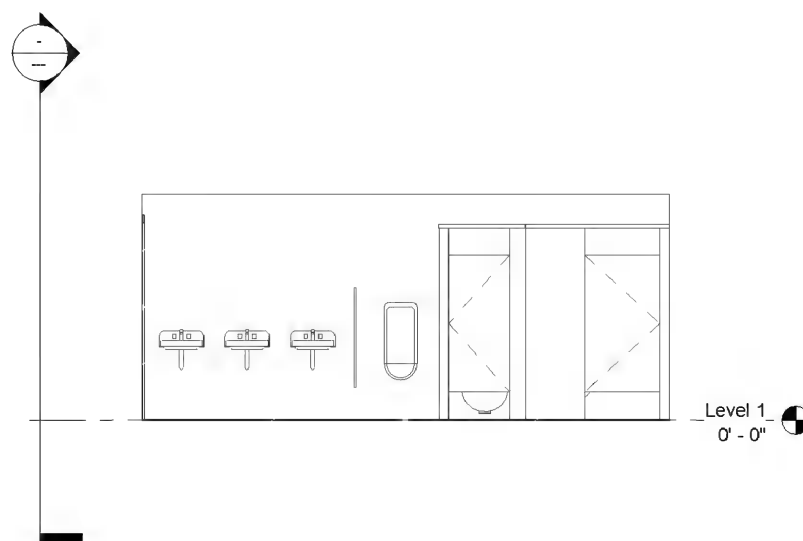

FIGURE 11-1.8 Men's Toilet – Typical view
17. Switch to the new view. Adjust the *Crop Region* so the concrete slab is not visible. Your view should look like Figure 11-1.8.
You may see the building section reference as shown in Figure 11-1.8. This would not typically be shown in an interior elevation view, especially because it does not intersect the elevation view. You will remove the reference in the next step. You cannot simply delete it because that will remove it from all views and delete the section.